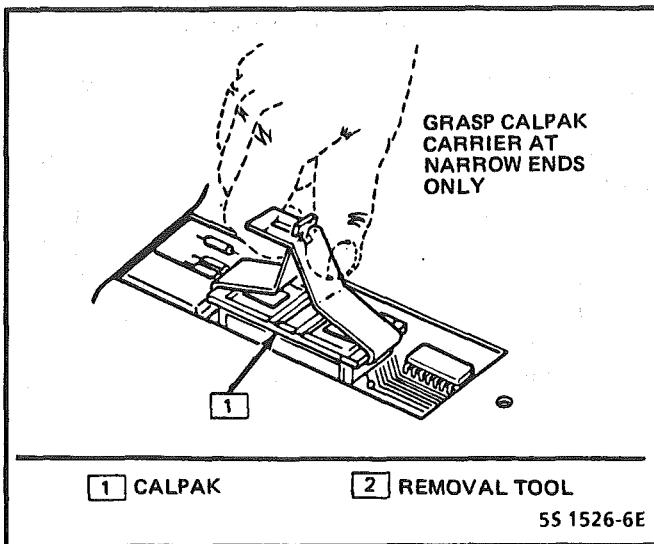

Figure C1-13 Removing Calpak
2. Remove CALPAK (Figure C1-13) using removal tool shown. Grasp the CALPAK carrier at the narrow end only. Gently rock the carrier from end to end while applying a firm upward force.